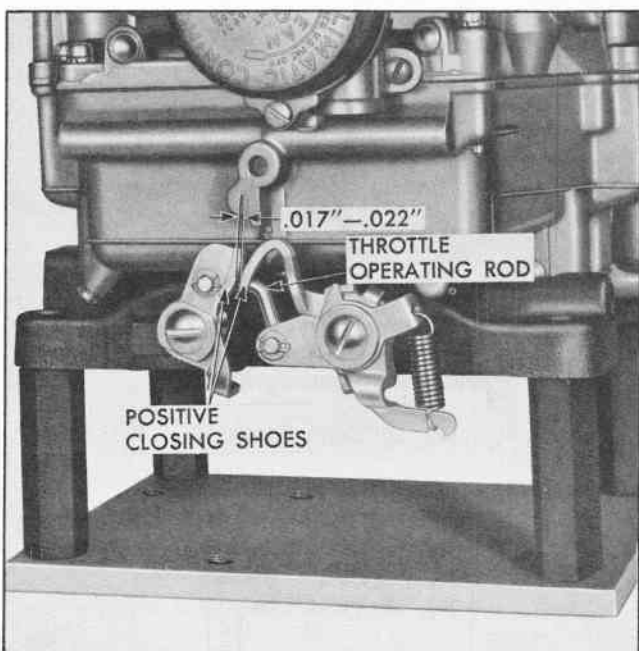

Fig. 30 Primary and Secondary Throttle Levers
3. Secondary throttle valves should reach wide open position at the same time as primary valves. If necessary, bend throttle operating rod at upper angle (Fig. 30) (use bending tool T-109-213).
4. Check to see that there is .017" to .022" clearance between primary and secondary throttle positive closing shoes (Fig. 30).